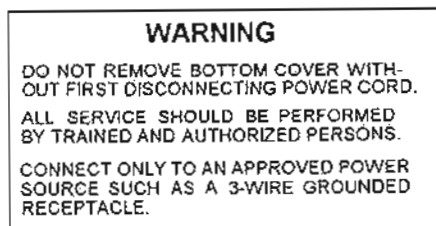

Figure 1-6. Warning data plate.
(3) A warning data plate (located on the bottom of the centrifuge) is depicted in figure 1-6.